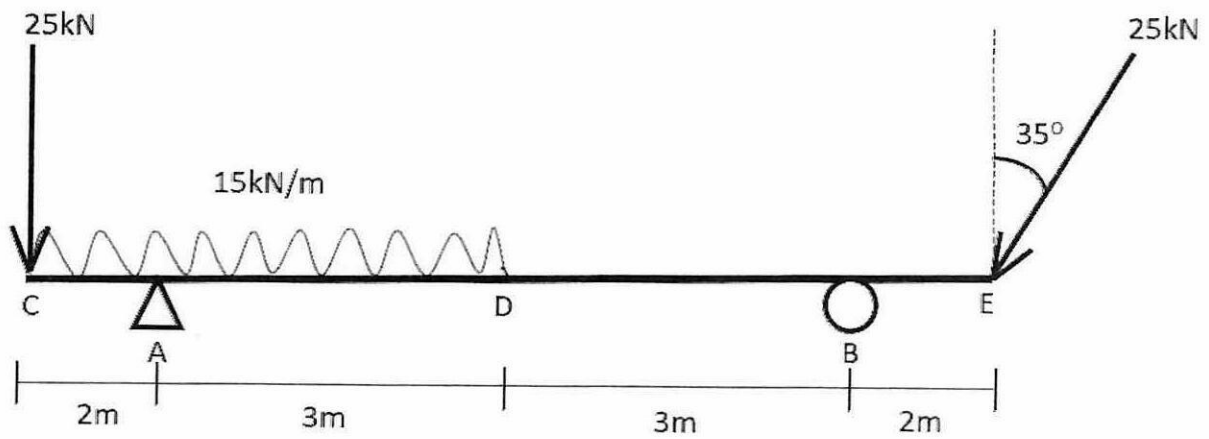

Figure Q3: A Beam
- Q3** A beam as shown in **Figure Q3** in **Appendix II** is loaded with 15 kN/m uniformed distributed load at points C to D and 25 kN concentrated load at point C and 25 kN at point E. The beam is pin support at point A and roller support at point B.